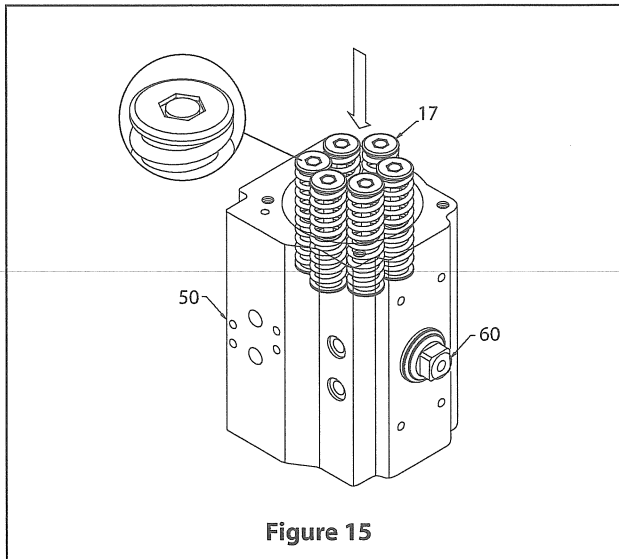

Figure 15
- A. For spring-return actuators, insert the proper quantity of spring cartridges (17) according to the pattern shown in **(Figure 14)** (referring to the total number of springs). Insert spring cartridges (17) as shown in **(Figure 15)**.